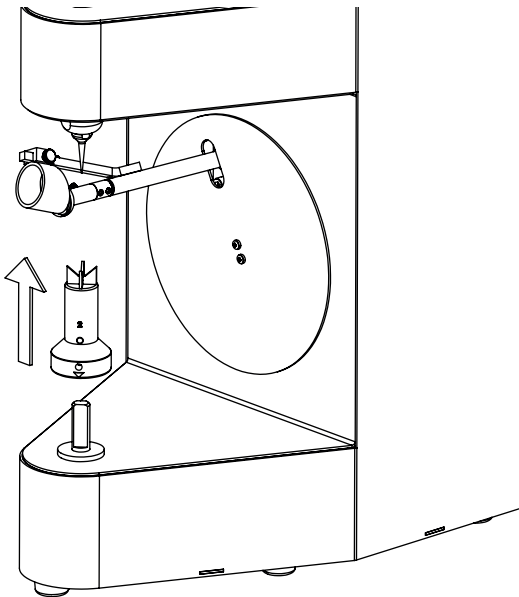

Figure 4
5. Pull the SM Bottom Holder (98) in the arrow direction. **(Figure 4)**